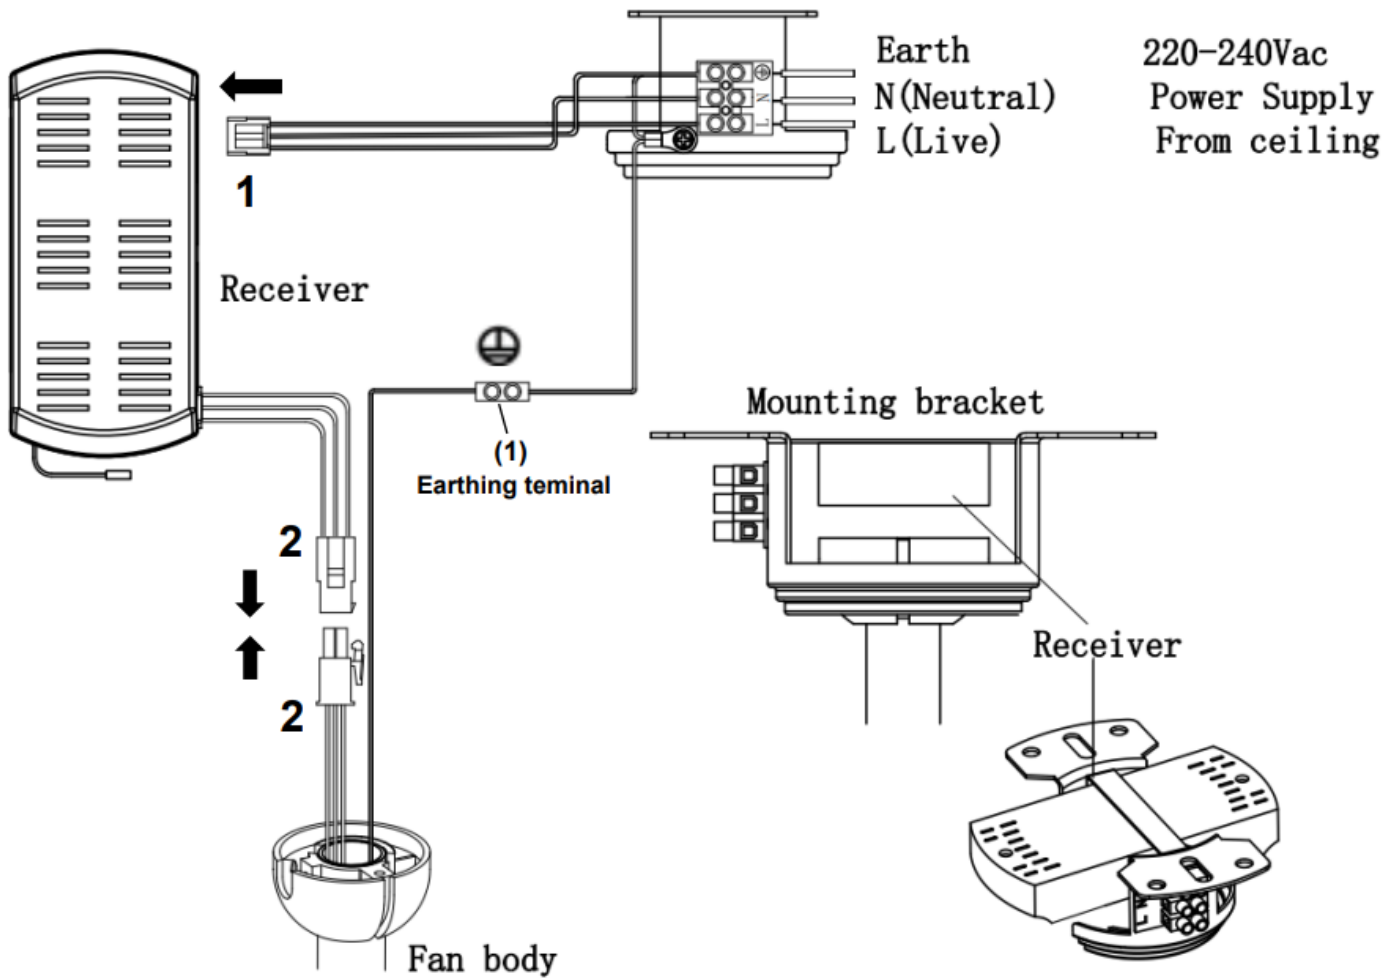

Fig. 7
### PREPARE AND COMPLETE THE ELECTRICAL WIRING --- WIRING DIAGRAM (FIG. 7)
**NOTE:** Ensure the motor earth wire is connected to the single earthing terminal block “ (1) ” in the diagram below (Fig. 7).
#### From mains supply to mounting bracket terminal block: (Fig. 7)
#### From mounting bracket to receiver and motor : (Fig. 7)
4. Connect the motor earth wire to the single earthing terminal block “1” in the diagram below. (Fig. 7)
5. Insert the supply wiring quick connector (1) from the mounting bracket to the fan receiver.
6. Connect the input wires quick connector (2) from the fan receiver to the input wires quick connector (2) from the fan assembly.
Carefully insert the receiver above the hanger ball in the remainder spacing in the mounting bracket. Take care not to damage or loosen any of the wiring. (Fig.7)